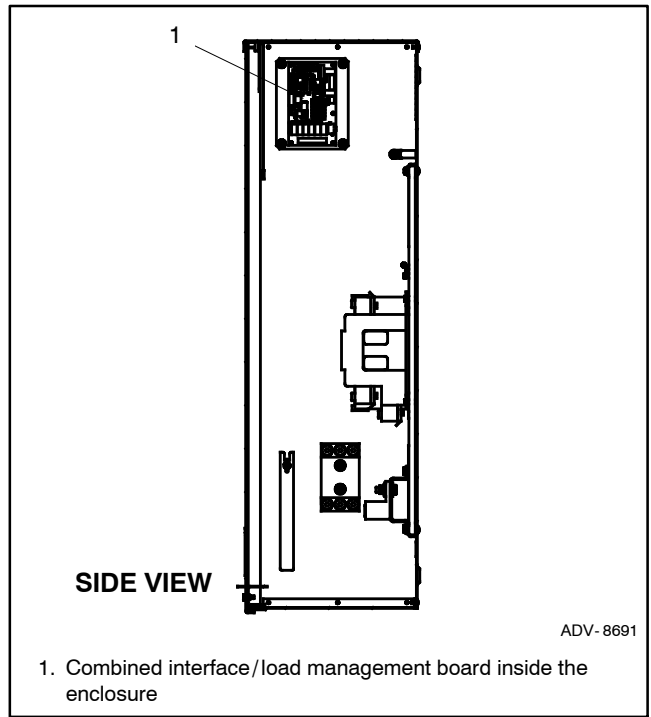
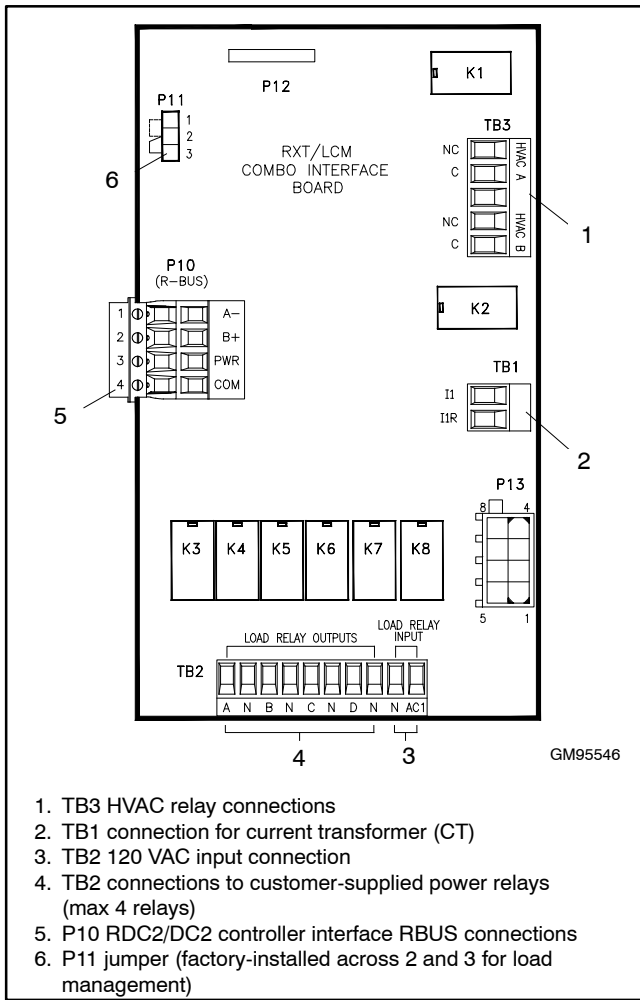

Figure 2-24 Typical Interface Board Location
Figure 2-26 Combined Interface/Load Management Board Customer Connections
7. RBUS connections: Connect the controller interface connection to A, B, PWR, and COM on terminal block P10 on the interface/load management board. See Figure 2-24 and Figure 2-26. The RBUS connections to the generator set controller are the same for the standard interface board and the combined board. See Section 2.6 for interface connection instructions.
8. Connect the CT leads to connector TB1 on the interface/load management circuit board. Extend the leads, if necessary, using customer-supplied wiring. See Figure 2-26 and/or the wiring diagram in Section 6 for the connector location.
11. Verify that the jumper is installed across P11 - 2 and P11 - 3 on the combined interface board. See Figure 2-26.
12. Connect HVAC loads to TB3. See Figure 2-26. Note the priorities of HVAC A and HVAC B relative